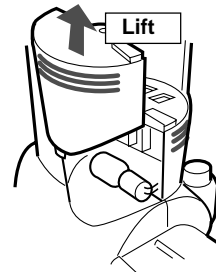

Fig.34
- 3 Lift the lamp cover. (Fig.34)